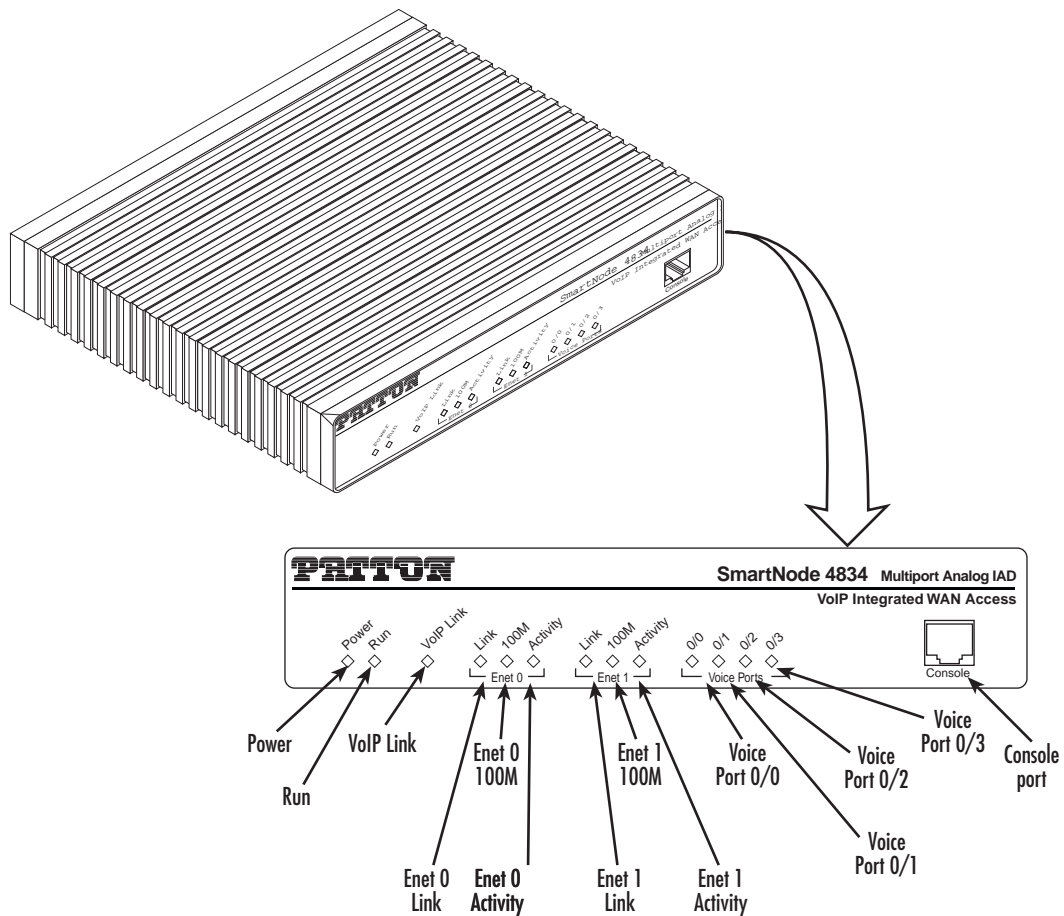

Figure 18. VoIP IAD front panel LEDs and Console port locations (SmartNode 4834 shown)
5. Verify that the green *Power* LED is lit (see figure 18).